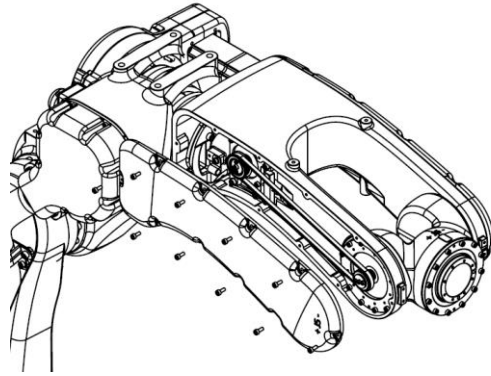

Figure 12-5 Diagram of removing J5 cover plate
Step4. Remove the J5 cover plate and 10 screws, as shown in Figure 12-5.